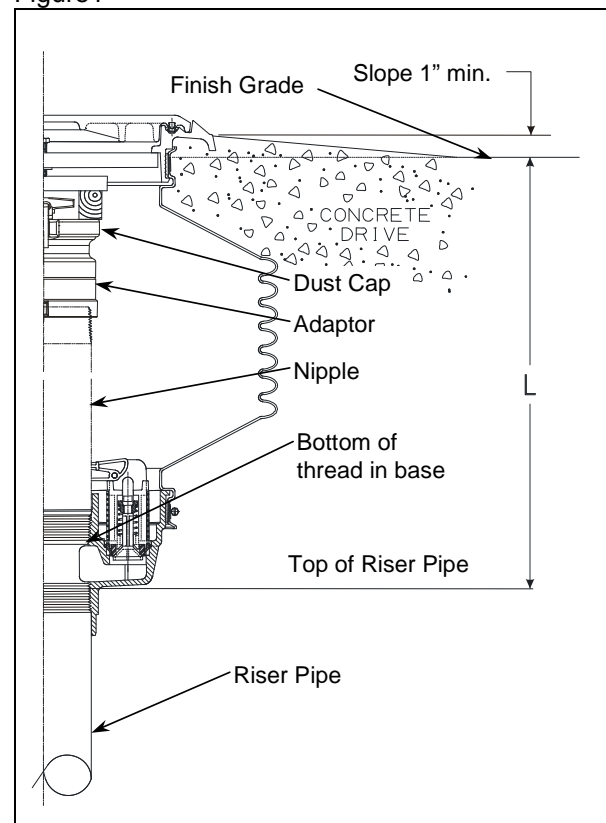

Figure 2
Step 7: (See Figure 2)
Step 10: (See Figure 2)
Before pouring concrete, place plastic over the cover and mounting ring protecting them from concrete splash. Double check that the unit is level and at proper grade height. Pour concrete per figure 2. Ramp or dome the concrete away from the mounting ring. There should be a minimum of 1" slope to finish grade. The concrete surface should start at the bottom edge of the watershed slots and tapered down to grade level.
4. Slide the Fiberglass basin over the riser pipe, make sure the band clamps on the entry fitting are loose to allow for adjusting the basin over the riser. (See Figure 2.)